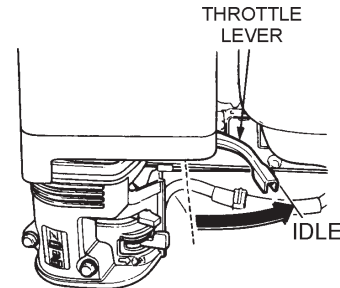

Figure 17. Throttle Lever (Idle)
- Move the throttle lever to the **IDLE** position (Figure 17) and run the engine for three minutes at low speed.